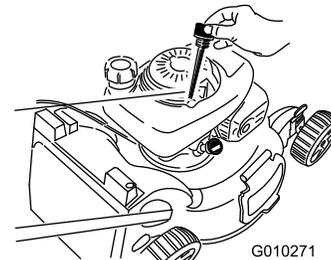

Figure 38
6. Remove the dipstick from the oil-fill tube (Figure 38).